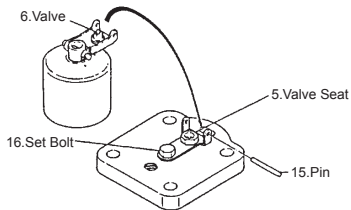

Fig. 5
- 3) When the pin (15) has been pulled out, the valve (6), valve holder (7), pin (8), bucket (9), eyebolt (10), eyebolt pin (12) and lever (13) can be removed from the cover (2). (See Fig. 5)
- 4) Take off the pin (8). The valve (6) and valve holder (7) come apart from the lever (13).